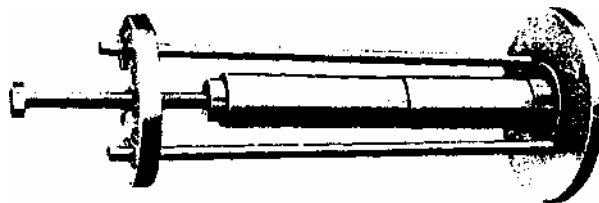

Fig. 19 Withdrawing the balance disc.
4. Withdraw balance disc (6010) by means of the extractor illustrated in fig. 19.